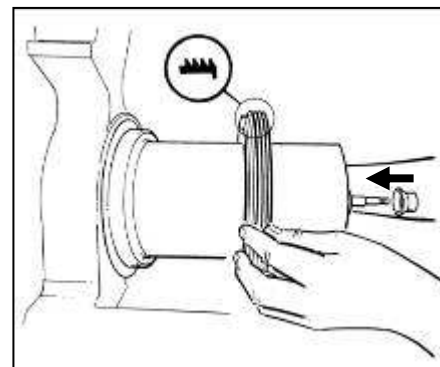

Fig. 22
- Reassemble the rear gasket and the bell shaped one, respecting the correct direction as indicated in figure 22.